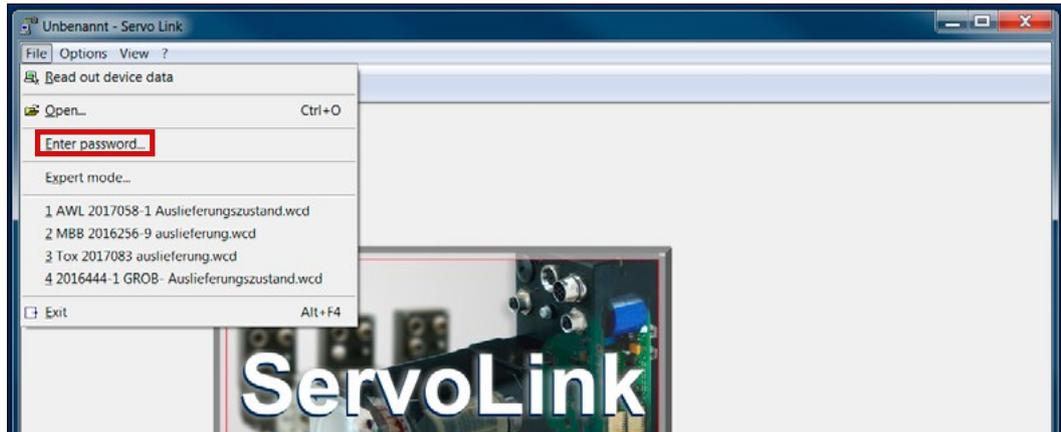

Fig. 16: Password menu item for advanced settings
- 5.1 Open the menu [File] in the program interface (see Fig. 16).
- 5.2 Select the menu item [Enter password ...] (see Fig. 16).